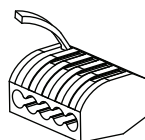
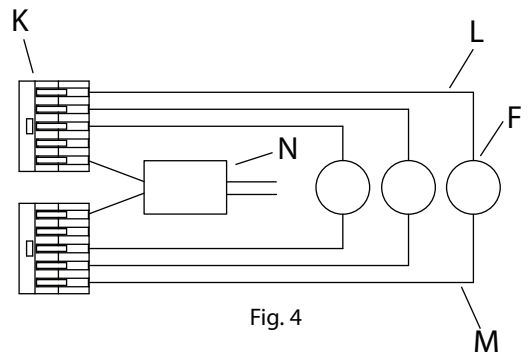

Fig. 3
Fig. 4
5. Connect the fixture wires to the lever nuts (K) by pulling up on the lever for an empty slot (Fig. 3), inserting the wire, and pushing the lever back down to lock. The white inner conductor (L) and black outer conductor (M) on each cord (F) must be connected to separate lever nuts, as shown (Fig. 4).
6. Reserve transformer (N), extra cords (F) and lever nuts (K) in canopy (J).
- a. Connect the transformer's (N) live wire (black) to the live outlet box wire.
- b. Connect the transformer's (N) neutral wire (white) to the neutral outlet box wire.
- d. Carefully place connections in outlet box (A).
8. Attach cross bar (P) to the outlet box (A), secure with outlet box screws (Q).
9. Attach canopy (J) to nipple (R), secure with finial (S).
10. Adjust spreader (B) to desired height and level.